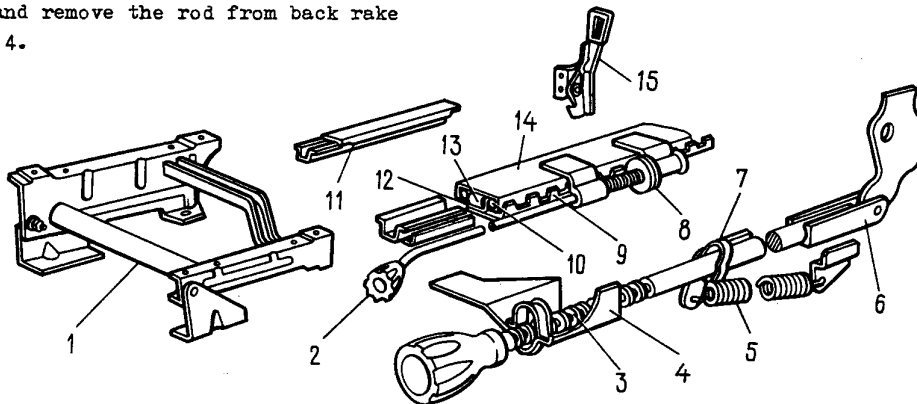

Fig. 8-31. Front Seat Adjusters:
**Fore-and-aft adjuster.** Unbend the edges of rail slides 14 (Fig. 8-31) and of rail guides 12, take out all balls 10 and shift the guides over the slides until rollers 13 come out.